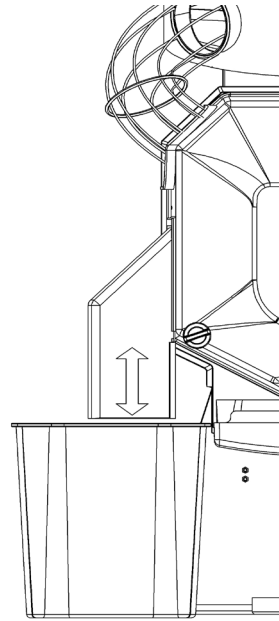

Figure 1
Put the Waste Buckets (45) on both sides of your machine, under the pulp outlet points on the cover(44) **(Figure 1)**.